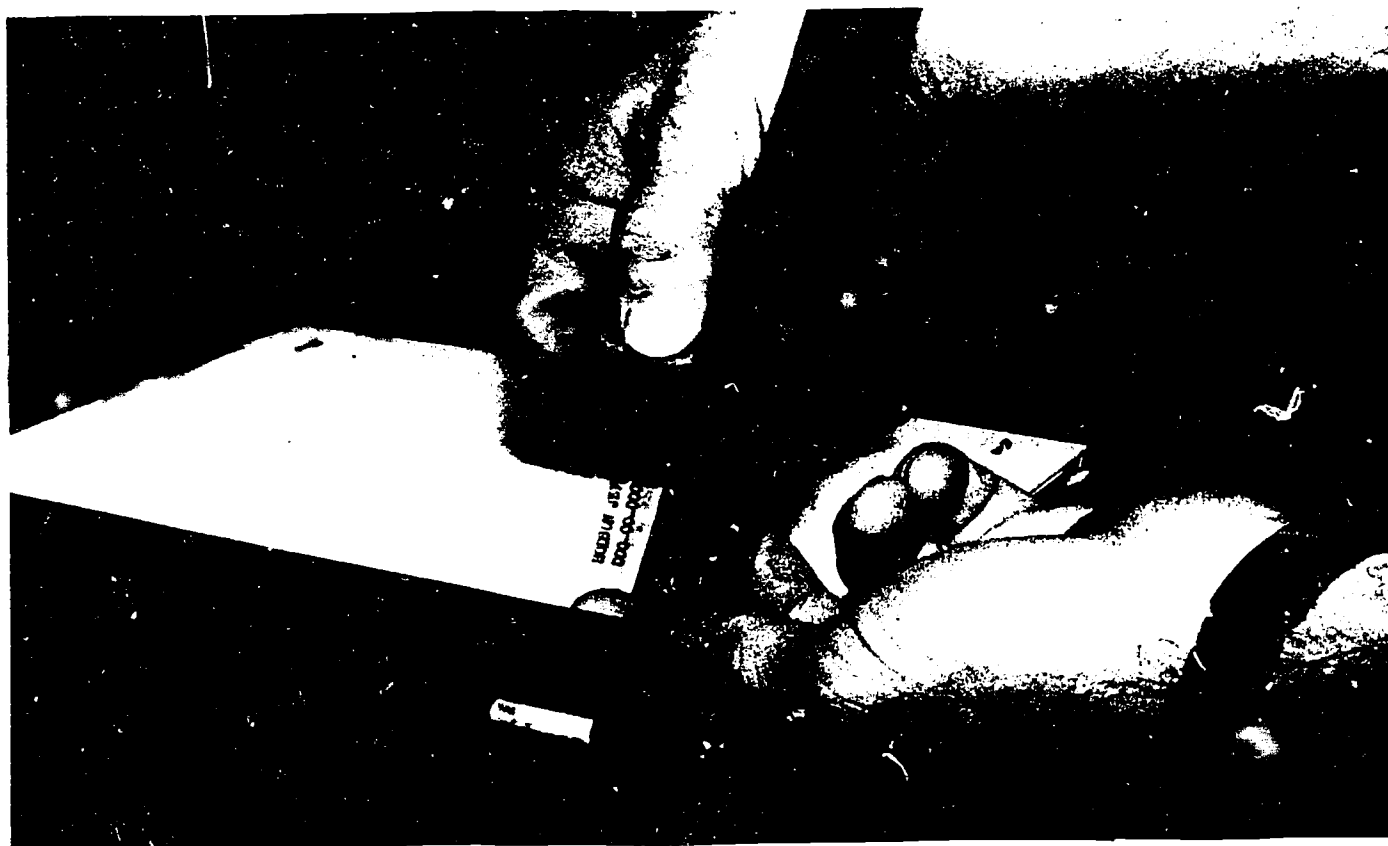

Figure 3-6. Frisket/easel relationship.
**Procedures.** To get the frisket where you want it is no big problem. First cut the frisket to size. Leave enough area around the sides and bottom so that you can place tape there. Next, hold the frisket so that you can read it. Then put strips of tape on the back side of the frisket at the two edges that will be under the easel mask. The sticky part of the tape must be facing you. Now, put the frisket where you want it in the frame. Press the tape onto the easel frame. Finally check to see if the frisket has been properly positioned. This includes: (1) the frisket must be straight, (2) the frame must cover all of the tape, and (3) the frisket must lie flat. Your frisket and easel should look like figure 3-6 when you are done.
**Exercise (647):**